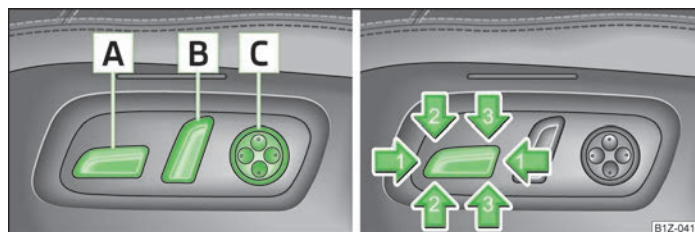

Fig. 41 Controls for the electric seat adjustment
- > Press the switch  » Fig. 41 forwards or backwards in the direction of arrow 1.
- > Press the switch  » Fig. 41 upwards or downwards.
- > Press the switch  » Fig. 41 in the direction of the arrow 2 or 3.
- > Press the switch  » Fig. 41 in the direction of the desired setting.